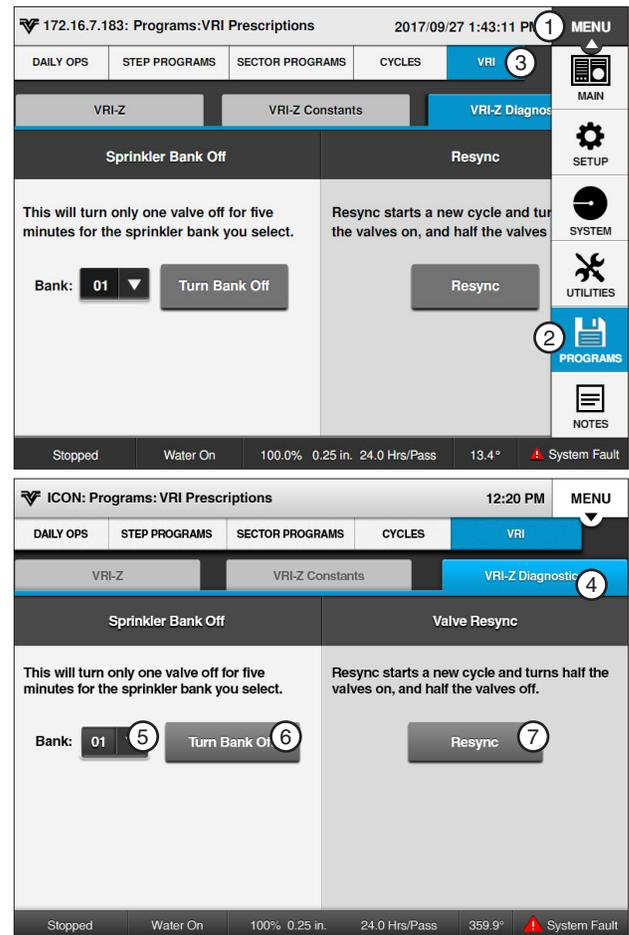

Figure 167-1 1. Menu
1. Push **Menu**, **Programs**, **VRI** and **VRI-Z Diagnostics** to display the VRI-Z Diagnostics screen. Refer to Figure 167-1.